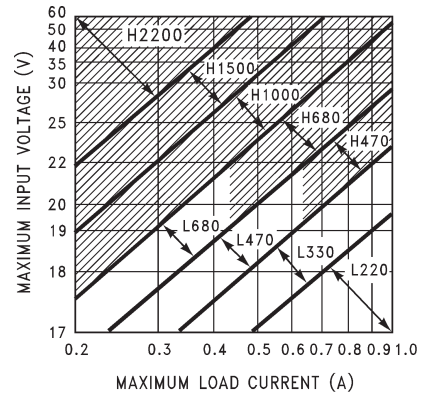

Figure 16. TL2575-15
1. Inductor Selection (L1)  A. From <a href="#">Figure 13</a> through <a href="#">Figure 16</a> , select the appropriate inductor code based on the intersection of V IN(Max) and I LOAD(Max) .  B. The inductor chosen should be rated for operation at 52-kHz and have a current rating of at least 1.15 × I LOAD(Max) to allow for the ripple current. The actual peak current in L1 (in normal operation) can be calculated as follows: $I_{L1(pk)} = I_{LOAD(Max)} + (V_{IN} - V_{OUT}) \times t_{on} / 2L1$ Where $t_{on} = V_{OUT} / V_{IN} \times (1 / f_{osc})$	1. Inductor Selection (L1)  A. From <a href="#">Figure 14</a> (TL2575-05), the intersection of 20-V line and 1-A line gives an inductor code of L330.  B. L330 → L1 = 330 µH Choose from: 34042 (Schott) PE-52627 (Pulse Engineering) RL1952 (Renco)